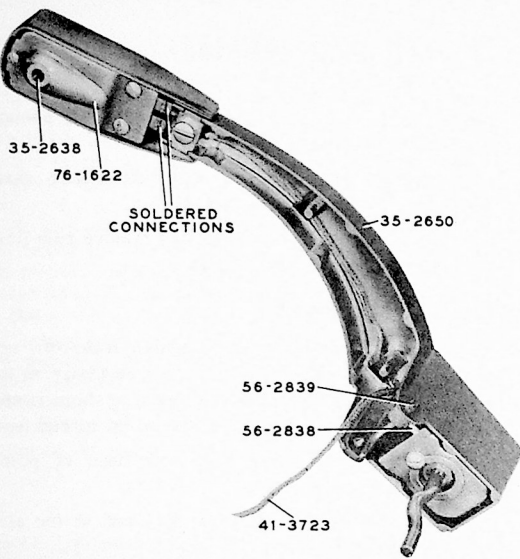

Figure 16. D-10A PICKUP, BOTTOM VIEW
- Unsolder the wires from the head at points shown in figure 16.